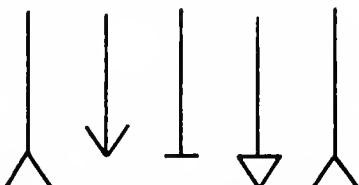

Fig. 282. Pleat ideas.
- D. Pleats may be stitched in various ways. A handworked arrowhead or crow's-foot may also be placed at the end of a pleat (Fig. 282).